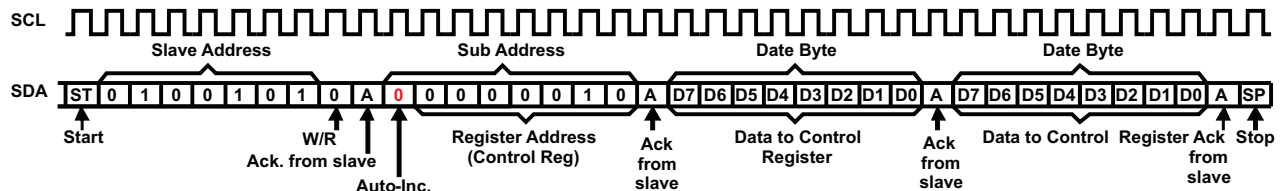

Figure 5. Repeated Data Write to a Single Register
Data is transmitted to the TSU6111 by sending the device slave address and setting the LSB to a logic 0 (see Figure 5 for device address). The command byte is sent after the address and determines which register receives the data that follows the command byte. The next byte is written to the specified register on the rising edge of the ACK clock pulse.
**Notes (Applicable to Figure 5–Figure 10):**